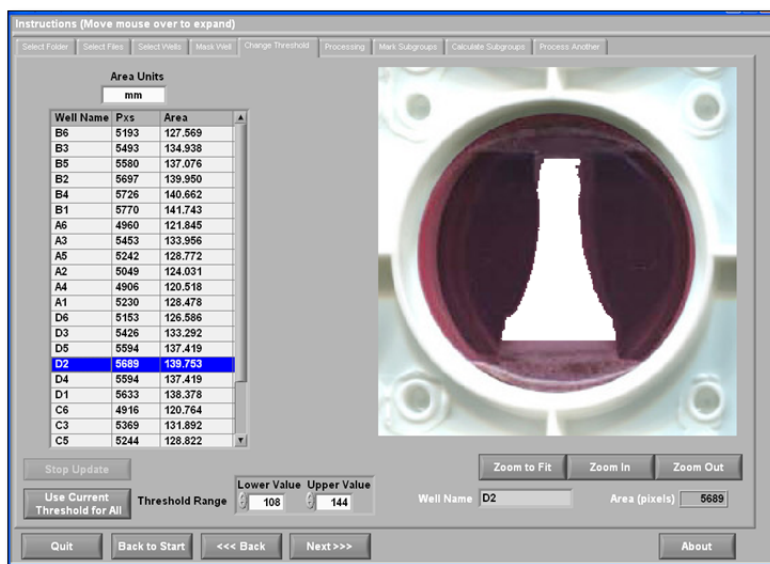

Figure 26. Processed well images of the anchor file only
- 4) The user may choose *USE CURRENT THRESHOLD FOR ALL* to employ the *LOWER VALUE* and *UPPER VALUE* selected for the current image for all 24 wells if 6-well plates are used and all 96 wells if 24-well plates are used (**Figure 26**). This selection will cause the software to evaluate each well in the anchor image with the current threshold. The user may choose not to use the current threshold for all the wells by selecting *STOP UPDATE* during area evaluation of the anchor image. When the threshold is acceptable, select *NEXT* to continue.